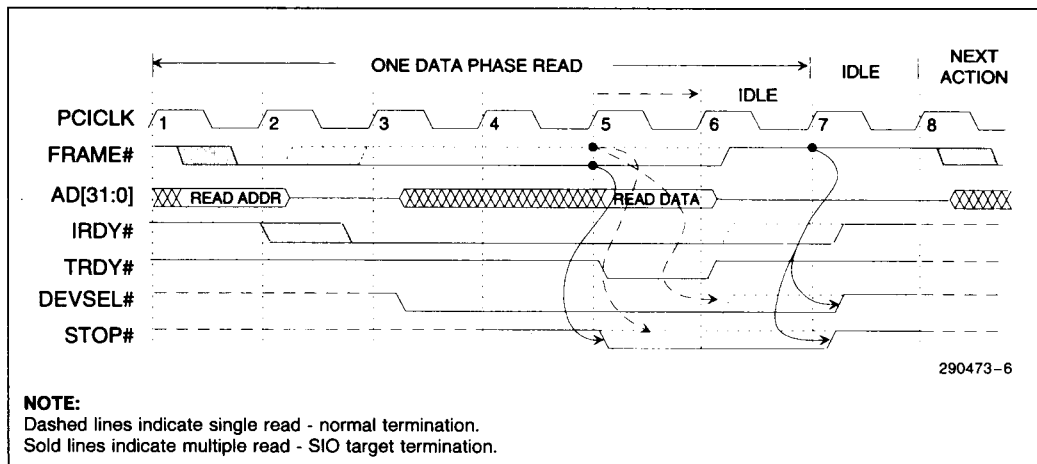

Figure 5-2. PCI Master Read From SIO - I/O Read (SIO as Slave)
As a PCI slave, the SIO asserts the DEVSEL# signal to indicate it is the slave of the PCI transaction. DEVSEL# is asserted when the SIO positively or subtractively decodes the PCI transaction. The SIO asserts DEVSEL# (claim the transaction) before it issues any other slave response, i.e., TRDY#, STOP#, etc. After the SIO asserts DEVSEL# (refer to Figures 5-2 and 5-4), it does not negate DEVSEL# until the same edge that the master uses to negate the final IRDY#.
Figure 5-1 shows the SIO as a master reading from PCI memory in zero wait states. Figure 5-2 shows the fastest the SIO, as a slave, responds to a read transaction generated by a PCI master.
**As a PCI slave,** the SIO responds to both I/O read and memory read transfers. For multiple read transactions, the SIO always target-terminates after the first data read transaction by asserting STOP# and TRDY# at the end of the first data phase (Figure 5-13). For single read transactions, the SIO finishes the cycle in a normal fashion, by asserting TRDY# without asserting STOP#. Figure 5-2 shows the
After sampling FRAME# active (assuming the SIO has not forced a retry), the SIO drives the AD lines at the rising edge of the following PCICLK (clock 3, Figure 5-2), even though valid data will not be available. The SIO also drives DEVSEL# active at this time, if a positive decode is done. Otherwise, if a subtractive decode is done, DEVSEL# will not be driven active for two to three PCICLKs after FRAME# is sampled active (refer to Sections 5.1.2.2 and 5.5.1.4). After the SIO has presented valid read data during the first data phase, and FRAME# remains active (multiple transaction indicated), TRDY# and STOP are driven active on the rising edge of PCICLK to target-terminate the transfer (clock 5, Figure 5-2). If a single transaction is indicated (FRAME# sampled inactive during the first data phase), the SIO asserts TRDY# without driving STOP# active. Read cycles are subject to retry. If the SIO is locked, if the cycle triggers buffer management activity, or if the ISA Bus is occupied by an ISA master or the DMA, the read cycle will get retried. If the cycle gets retried due to an occupied ISA Bus, the ISA Bus will be requested.